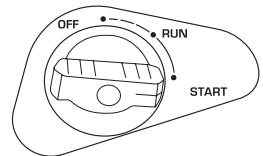

Fig. 4
4. Turn the air choke control knob to the “START” position (fig. 4).
6. Turn the air choke control knob to the “RUN” position (fig. 4).